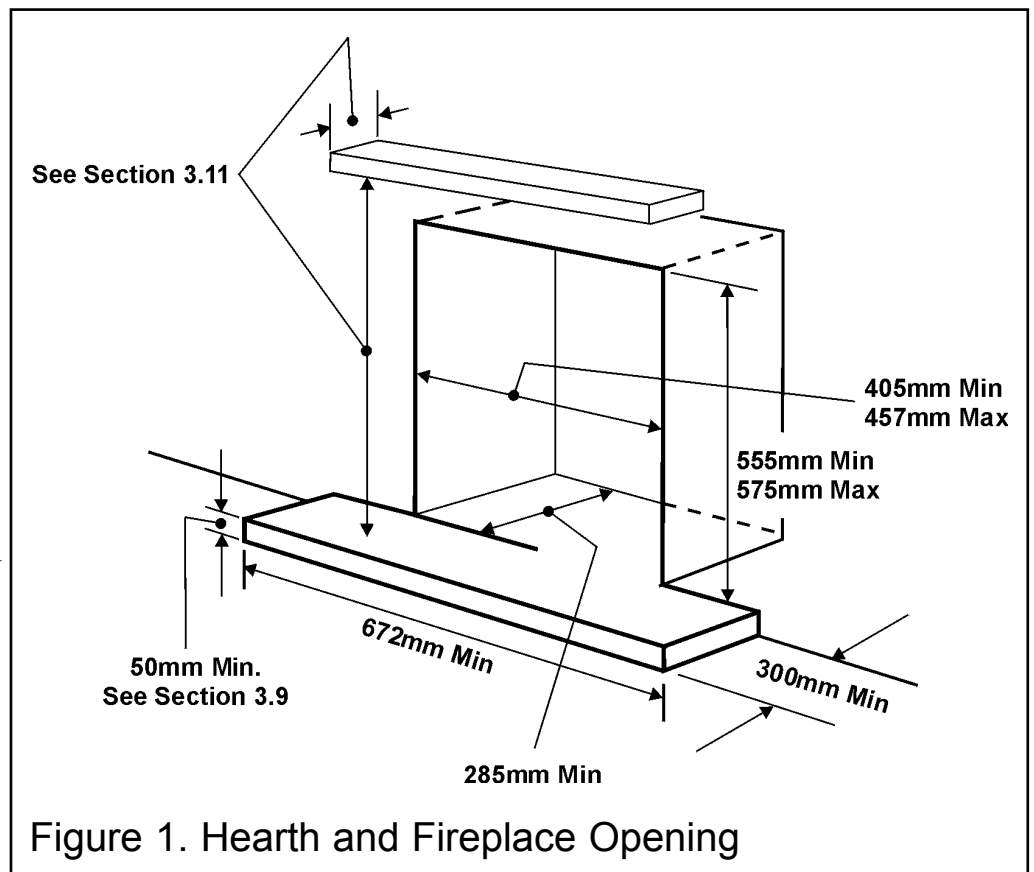

Figure 1. Hearth and Fireplace Opening
3.2.1 To a fireplace complete with surround and hearth as shown in figure 1 and complying with BS1251 after removal of the fireback and sufficient material behind the fireback for a debris catchment space. The required fireplace, hearth, debris catchment area and clearance dimensions are shown in figure 1.
- It is recommended that a hearth should be installed as in figure 1.